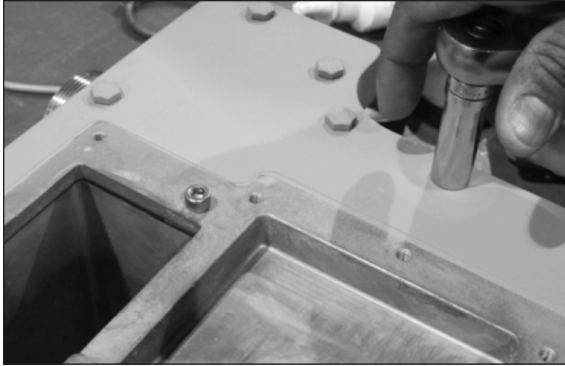

Figure 9.32 - Remove the 16 bolts
2. Use a ratchet with a 7/16" socket to remove the 16 bolts on the front of the meter as shown in Figure 9.32.